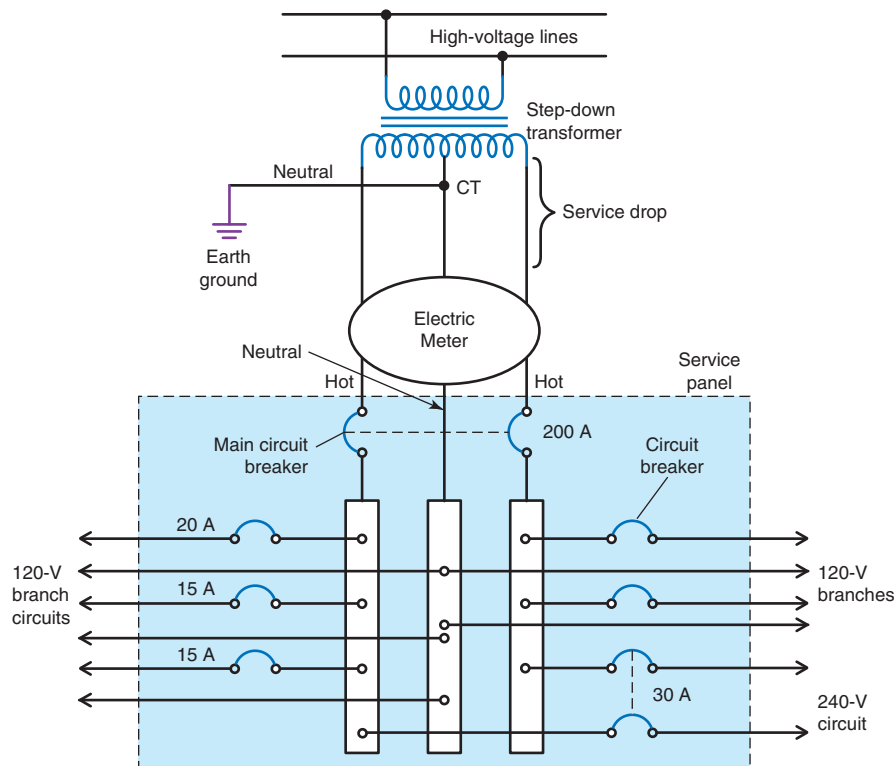

Figure 24-16 The service panel.
Figure 24-16 shows a basic schematic diagram of the wiring at the service entrance. The high-voltage, step-down transformer from the utility provides 240 V from the secondary winding. This secondary winding is center-tapped providing two 120-V circuits. The center tap and wire are known as the neutral, which is connected to earth ground. The other two sides of the transformer are known as hot wires. All three connections are attached to the bus bars. The bus bars then distribute the voltage to the various circuits. Note the main circuit breaker or switch. Then note that each of the individual circuits shown has its own circuit breaker with the peak current designated.
The electric power to homes and businesses is supplied over three wires, as previously shown in Fig. 24-16. The three wires come from the step-down transformer provided by the utility company. The three wires from the power transformer terminate at the service entrance box. That box contains the circuit breakers and bus bars for wiring
distribution. In Fig. 24-16, you can see that the center tap (CT) wire is referred to as the neutral. This wire is usually white. The other two wires are referred to as the hot wires. These wires are usually black but could be red or blue. The voltage between either of the hot wires and the neutral wire is 120 V. The voltage between the two hot wires is 240 V. The higher voltage is used in heavy appliances, clothes dryers, air-conditioning and heating systems, and hot water heaters.